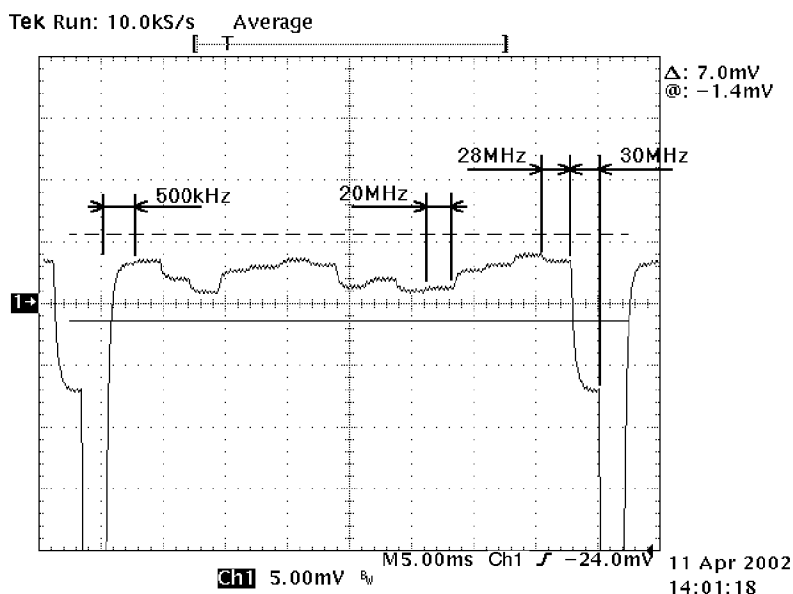

Figure 22: Verifying the signal amplitudes
7. Verify that the differences between the maximum amplitude and the minimum amplitude from 500 kHz to 20 MHz are less than or equal to 7 mV. (See Figure 22.)
8. Verify that the differences between the maximum amplitude and the minimum amplitude from 500 kHz to 28 MHz are less than or equal to 14 mV. (See Figure 22.)
9. Verify that the differences between the maximum amplitude and the minimum amplitude from 500 kHz to 30 MHz are less than or equal to 21 mV. (See Figure 22.)